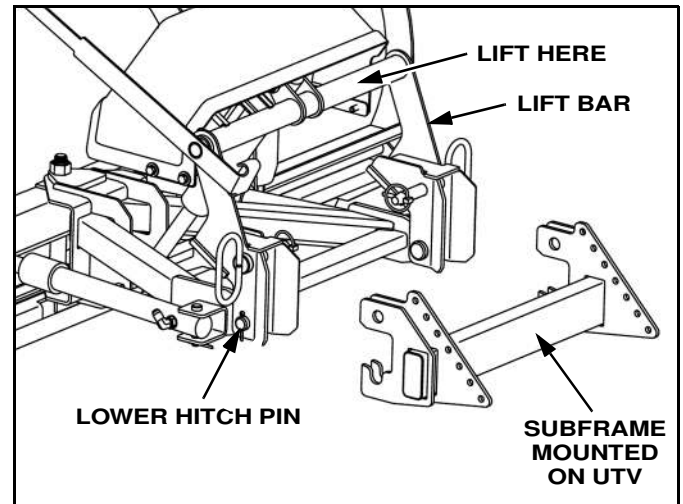

Figure 1-9
1. Drive UTV up to plow. Align lift bar frame outside of subframe lugs. Grab the tube at the top of the lift bar, pick up rear of plow and set lower hitch pins into slot of subframe. (See Figure 1-9).